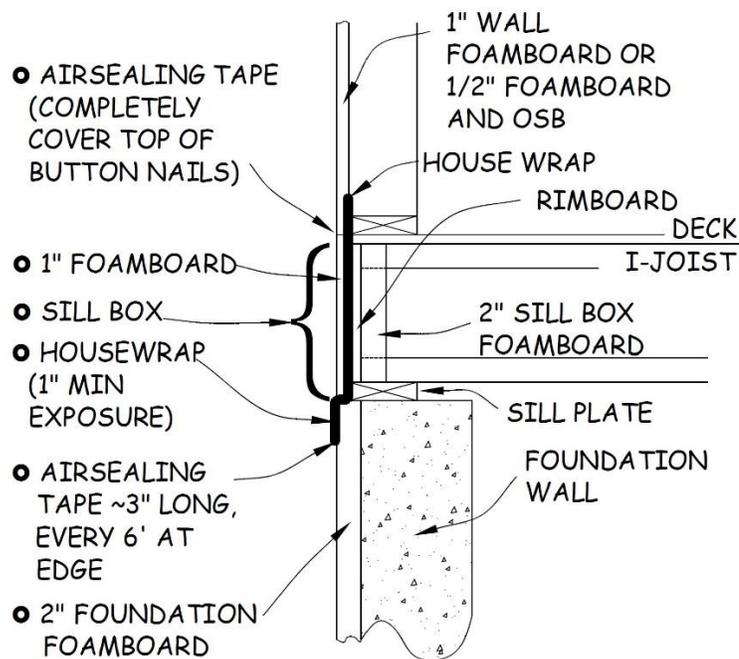

Figure 5-3. House Wrap and Foamboard Seams.
1. Measure and cut 1" foamboard to fit on the exterior of the sill box, **tightly** between the bottom of the wall foamboard and the foundation foamboard. Do the same below any OSB/½" foamboard wall panels. Install the foamboard with 2" button nails about 8" apart and 2" away from the top and bottom seams of the foamboard. Make sure the house wrap is **behind** this foamboard, leaving any extra wrap protruding from the seam between the bottom of the sill box foamboard and the top of the foundation foamboard (see Figure 5-3).
CAUTION: House wrap must extend at least 1" over the surface of the 2" foundation foamboard (see Figure 5-3). If it does not, see the Construction Supervisor.
where the house wrap emerges from below the sill box foamboard. Instead, tape the bottom of the house wrap to the foundation foamboard every 6' with a 3" piece of air sealing tape just to hold it down (see Figure 5-3).